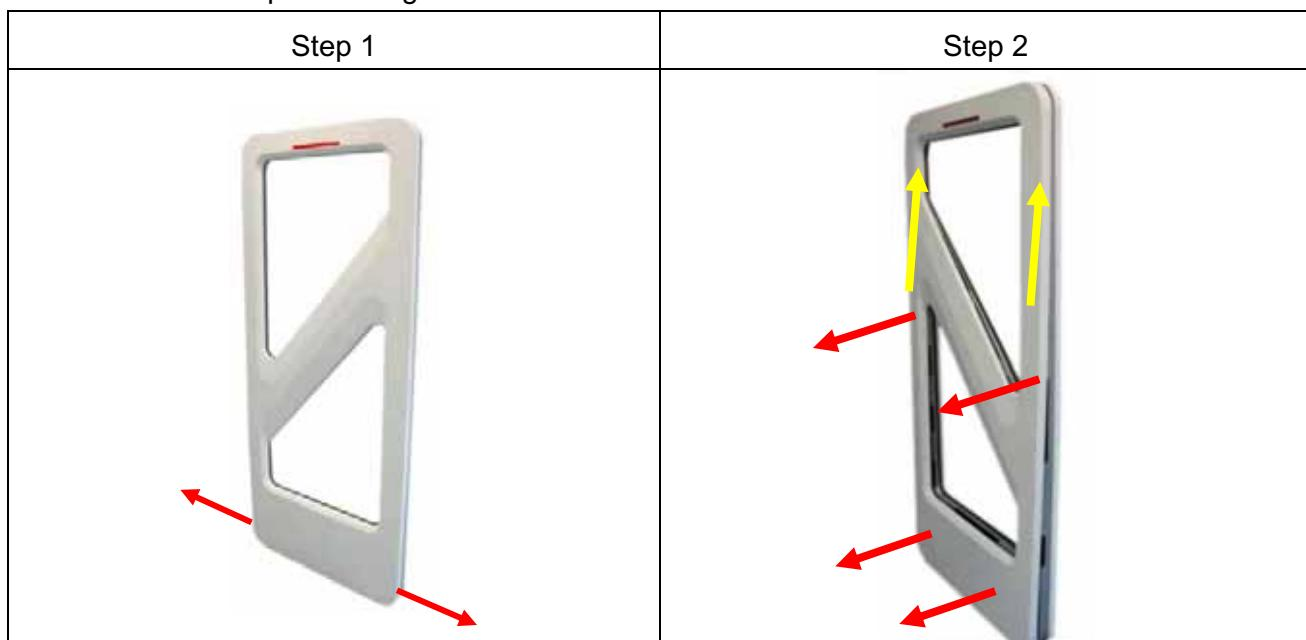

Fig. 4: Opening the antenna base
2. After that the antenna has to be placed carefully again on the floor. Now you must remove the two fastening screws (hexagon socket width A/F2,5) of the antenna cover at the antenna foot and remove it upwards. Fig. 4